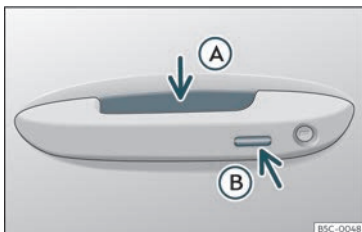

Fig. 77 Door handle: sensor surfaces
>>> Fig. 77
»» **Fig. 77 A** (arrow) of the handle and the vehicle unlocks.
»» **Fig. 77 B** (arrow) on one of the front door handles. The door that is used must be closed.
- Touch (*once*) the sensor surface»» **Fig. 77 B** (arrow) on one of the front door handles. The vehicle locks with the “Safe” security system»» page 99. The door that is used must be closed.
- Touch (*twice*) the sensor surface»» **Fig. 77 B** (arrow) of one of the front door handles to lock the vehicle without activating the “Safelock” security system»» page 99.
- Push the central locking button  on the remote control and touch the locking sensor surface of the driver door handle >>> **Fig. 77**  within the following 5 seconds. Do not grasp the door handle; otherwise the vehicle will not unlock. Deactivation is also possible if the vehicle is locked through the driver's door lock.
To close all the electric windows and the sunroof using the **comfort function**, keep a finger for a few seconds on the locking sensor surface >>> **Fig. 77**  (arrow) of the door handle until the windows and roof have closed.
The sensor surfaces on the door handles could engage if hit with a water jet or high pressure steam if there is a valid vehicle key in the proximity. If at least one of the electric windows is open and the sensor surface >>> **Fig. 77**  (arrow) on one of the handles is activated continuously, all windows will close.
- **OR:** touch the sensor surface on the outside of the door handle twice >>> Fig. 77 .